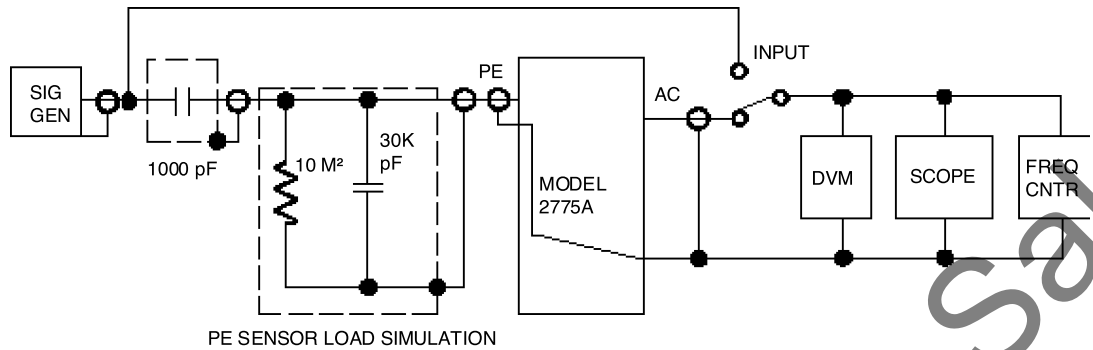

FIGURE 5-11: FREQUENCY RESPONSE
- A. The low frequency response must be measured using an oscilloscope or a special low frequency measurement device (such as a Solartron 1250 Frequency Response Analyzer). Set the SENSITIVITY switch to 1.00 and the FUNCTION switch to OUT CAL and adjust the AC OUTPUT for 1.000 Vrms. Set the FUNCTION switch to OP and adjust the signal input level to the 1000  $\pm$ 1 pF shielded capacitor to read 1.00 Vrms at the AC OUTPUT. Adjust the frequency and make the following readings; see set up in Figure 5-11.
- B. The high frequency roll off is determined by the full scale range selected in combination with the multiplier. Set the AC OUTPUT to 1.00 Vrms at 1 KHz for the reference frequency point. Increase the frequency until the AC OUTPUT drops to the -5% point and record the frequency. Readjust the AC OUTPUT reference to 1.00 Vrms at 1 KHz for each full scale range. The frequency recorded should be greater than the frequency listed for each full scale range. (See Figure 5-11 for Setup).